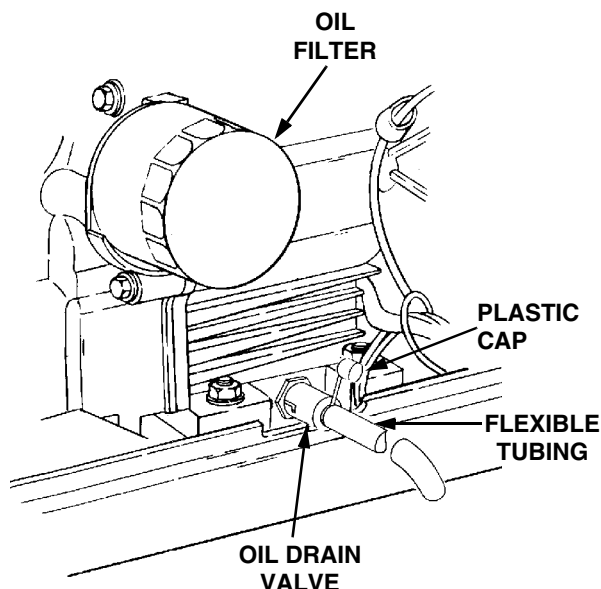

Figure 19
The oil filter is located behind the left side panel and is mounted on the engine (See Figure 19).
3. Unseat the plastic dust cap from the engine oil drain valve. To prevent loss of the cap, do not remove the cap's retaining ring from the drain valve (Refer to Figure 19). Remove the dipstick and oil fill cap.